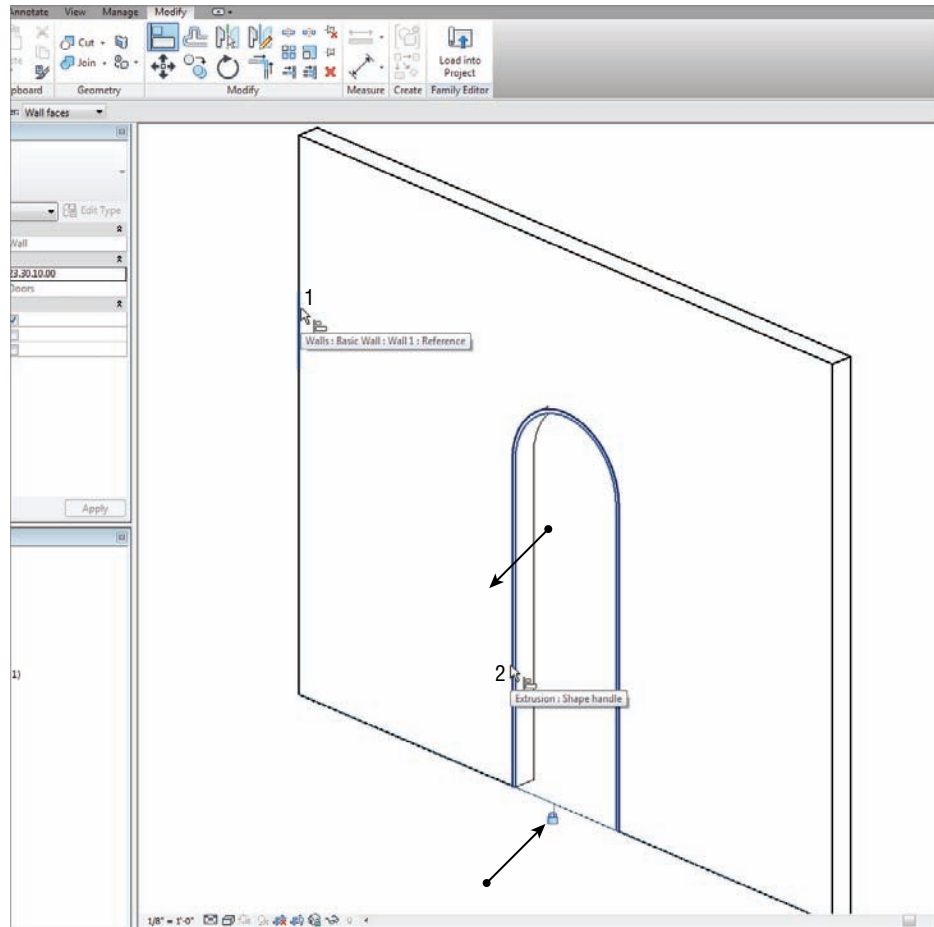

FIGURE 17.20 Aligning and locking the inside face of the jamb to the wall
2. Click the Align button on the Modify tab, as shown in Figure 17.20.
6. Click the open padlock icon that appears (see Figure 17.20).